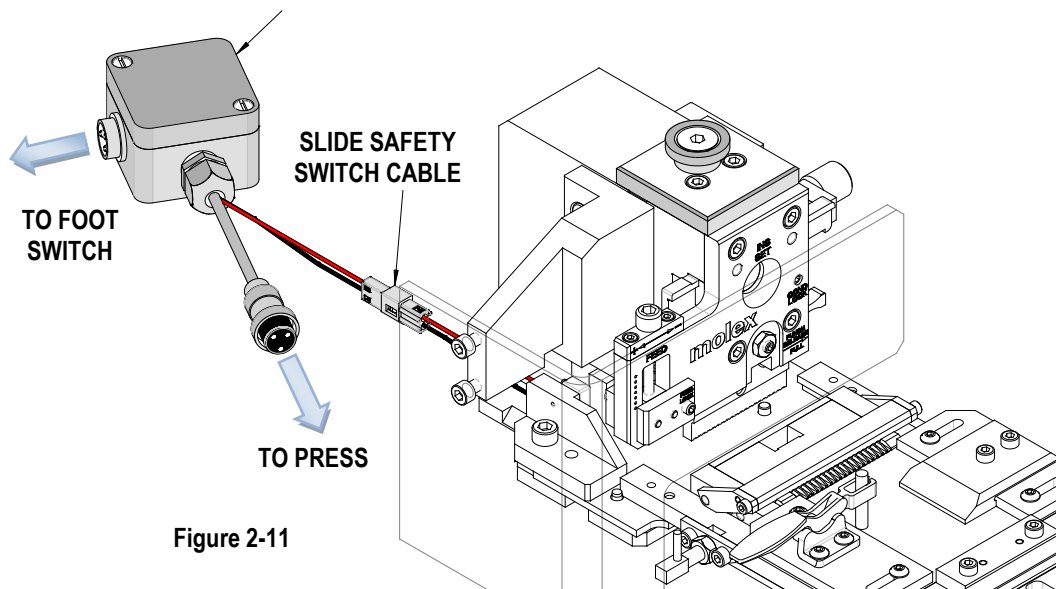

Figure 2-11
7. Connect the jumper wire assembly. (This allows the press to cycle only if the FFC slide is fully pushed in AND the foot pedal is pressed). The two-wire connector from the slide safety switch cable gets plugged into the receptacle. The pigtail (with the 3-pin connector) from the jumper wire junction box is connected to the 3-pin connector on the back of the press. Finally, the foot switch cable is connected to the 3-pin connector on the jumper wire junction box. See Figure 2-11